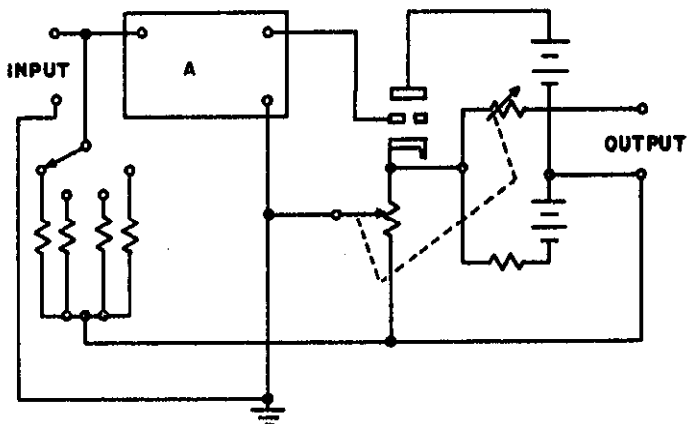

FIGURE 4. Fast Ammeter Operation Schematic
- (2) Feedback Method (FAST) In the voltmeter discussion above, floating ground has been driven by the cathode follower and output ground has been connected to the low impedance side of the input connector. In the FAST connection, shown in Figure 4, the amplifier ground is connected to the low impedance side of the input; the cathode follower ground floats, and negative feedback is applied through the shunt resistor.
If Figure 4 is again consulted it will be seen that this connection converts the 621 into an operational amplifier with a resistor from the output to the input. Therefore, the following cautions apply: